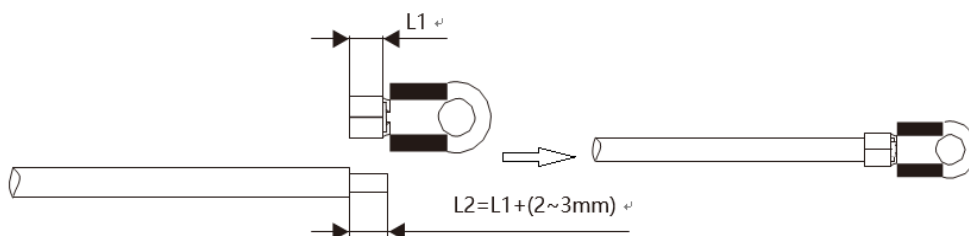

Figure 3-6 Strip off PE cables
- 2) Strip off PE cable as figure 3-6: